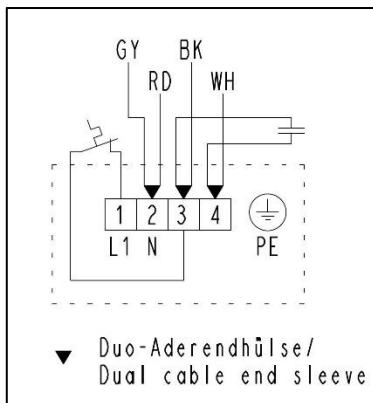

Fig. 6: Electrical Connection
4. Connect the mains cable to the pump (see Fig. 6).